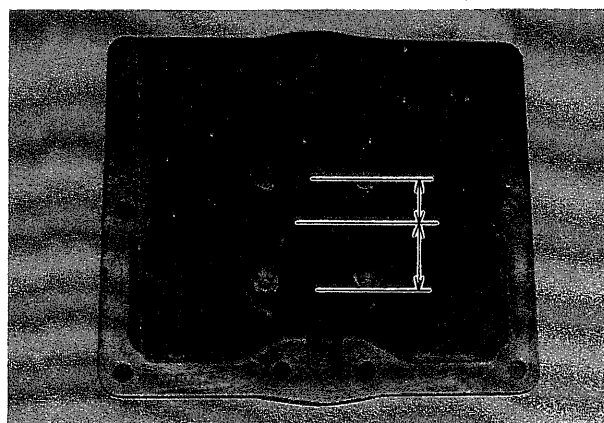

Fig. 52
- (1) Assemble coupling to main shaft so that two threaded holes at splined shaft end and a groove on coupling are in alignment.
- (2) Install guide plate with short arm of guide slot directing to coupling side and long arm motor side respectively. (Fig. 52)